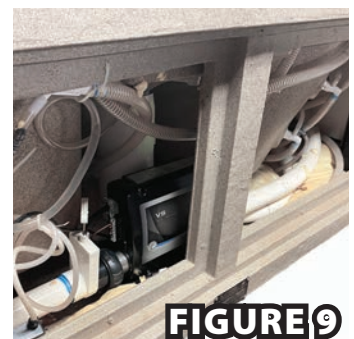

FIGURE 9
7. Pour a gallon of spa antifreeze into the top of each pump (Figure 9) and a gallon into the filter cavity (Figure 10).
- Some models have two removable panels on each side. Removing both panels may be necessary to access some spa components, such as the spa pack (Figure 9).